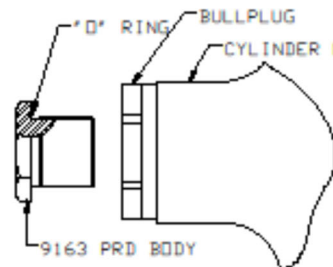

FIGURE 1
2. Install "O" ring in groove of 9163 body. SEE FIGURE 1